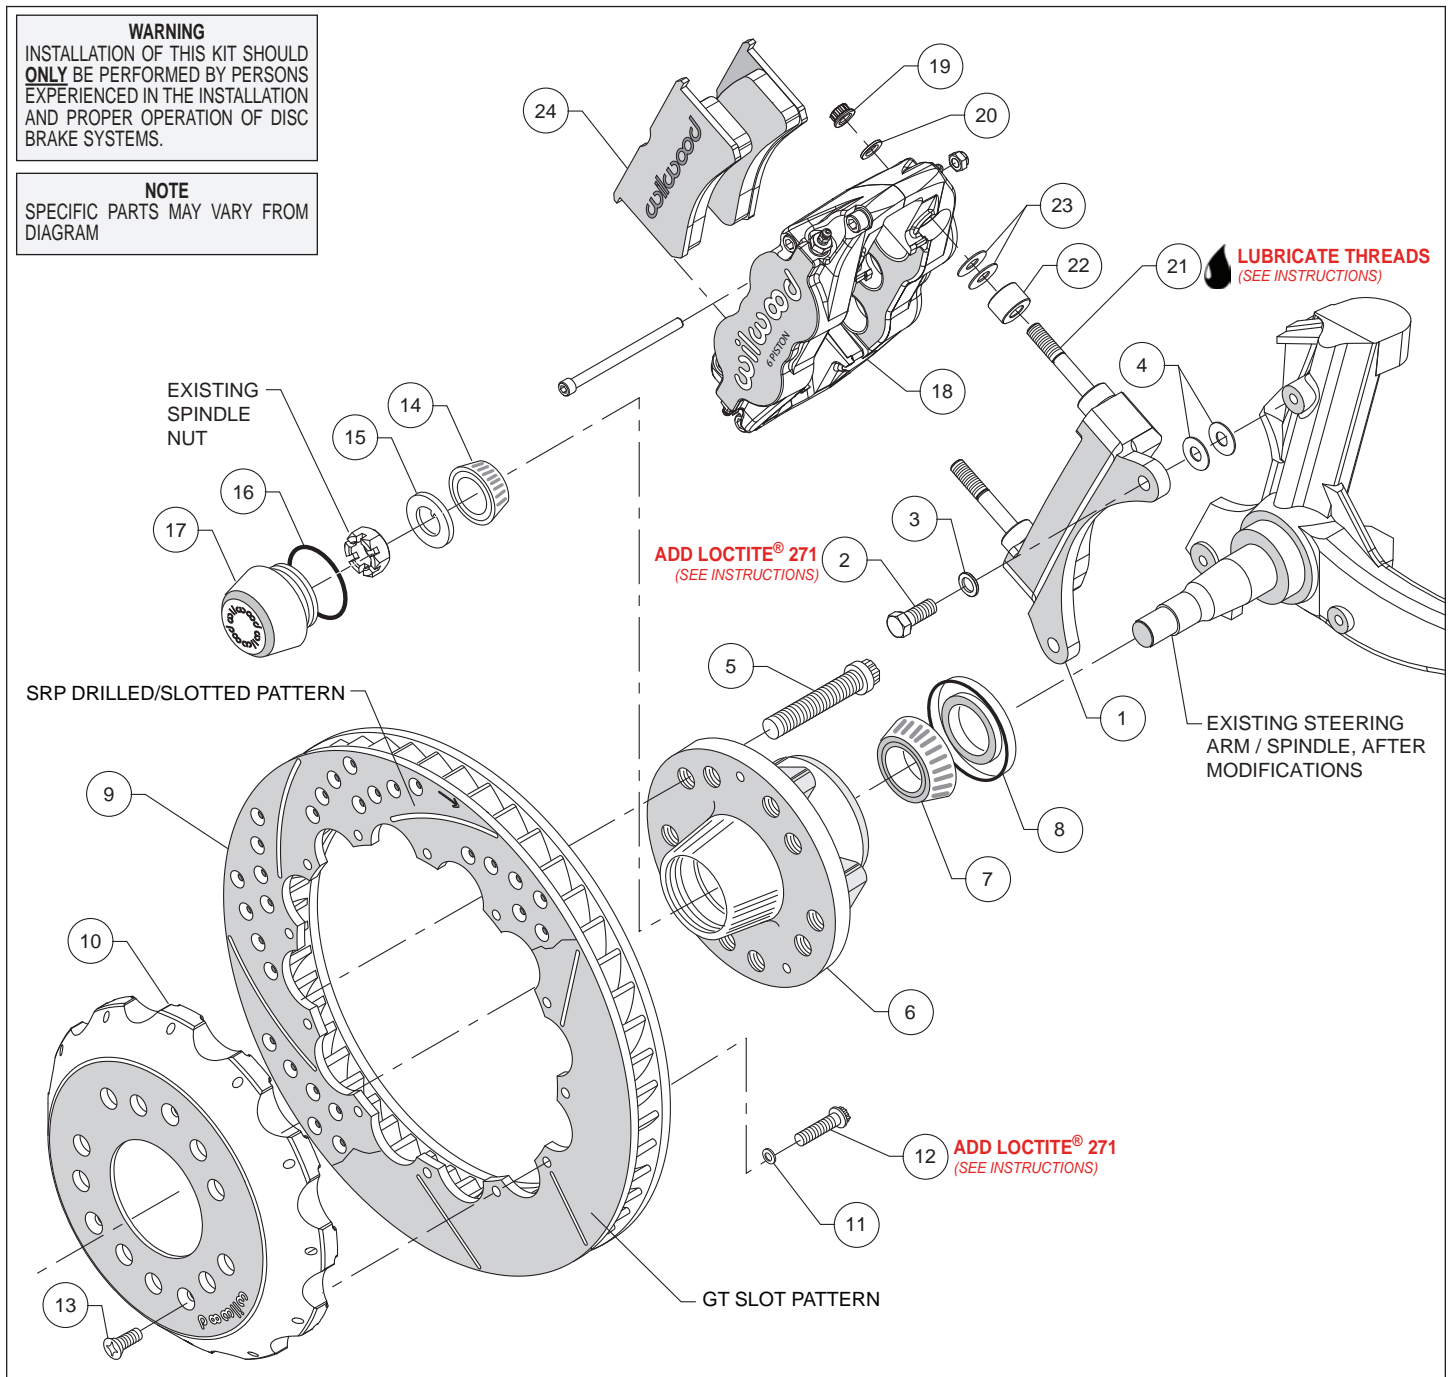
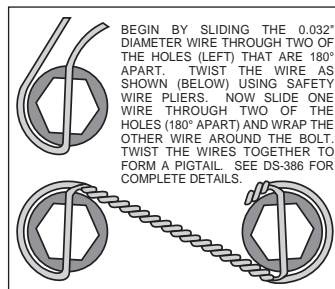

Figure 2. Typical Installation Configuration
Figure 4. Safety Wire Diagram
Assembly Instructions (numbers in parenthesis refer to the parts list and Figure 2 on the preceding pages):
- The caliper mount bracket (1) should initially be installed with clean, dry threads on the mounting bolts. Orient the bracket as shown in Figure 2 and Photo 1, and install using bolts (2) and washers (3). Initially place two .035" thick shims (4) on each bolt between the bracket and upright, Figure 2. Temporarily tighten the mounting bolts. **NOTE:** The bracket must fit squarely against the mounting points on the spindle. Inspect for interference from casting irregularities, machining ridges, burrs, etc. Later, after the caliper alignment has been checked, the mount bolts will be secured using red *Loctite*® 271.
- Pack the large inner bearing cone (7) with high temperature disc brake bearing grease (available from your local auto parts store) and install into the backside of the hub (6), Photo 3.
- Install the grease seal (8) by pressing into the backside of the hub (6), flush with the end of the hub, Photo 3.
- Orient the rotor (9) and the hat (10) as shown in Figure 2 and Photo 4. Attach rotor to hat using bolts (12) and washers (11). Using an alternating sequence, apply red *Loctite*® 271 to the threads, and torque to 155 in-lbs. For an added measure of security, the bolts may be safety wired using standard 0.032 inch diameter stainless steel safety wire as shown in Figure 4. Refer to Wilwood's data sheet DS-386 (available at www.wilwood.com/Pdf/DataSheets/ds386.pdf) for complete safety wire installation instructions.
- **NOTE:** This kit contains distinct right and left hand calipers that must be mounted in a specific direction, as described below. Lubricate the caliper mounting studs (21) with lightweight oil. Initially place two .035" thick shims (23) and one spacer (22) on each stud between the caliper and the bracket, as shown in Figure 2 and Photo 7. Mount the caliper (18) onto the bracket (1) using lock nuts (19) and washers (20), Figure 2. Ensure that the caliper is mounted so the largest pistons are at the rotor exit end of the caliper, in relation to the direction of rotor rotation. Temporarily tighten the lock nuts and view the rotor through the top opening of the caliper. The rotor should be centered in the caliper, Photo 8. If not, adjust by adding or subtracting shims (4) between the bracket and the spindle. Always use the same amount of shims on each of the two mounting bolts. Once the caliper alignment is correct, remove the bracket mounting bolts one at a time, apply red *Loctite*® 271 to the threads, and torque to 40 ft-lb.